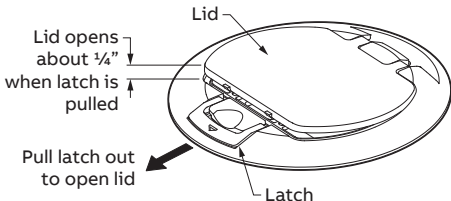

Figure 1
- a. Pull latch out to release lid which will open slightly (¼"). (Figure 1)